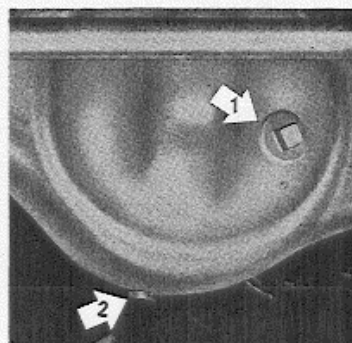

Fig. 5. Rear axle (ENV), early production.
The oil should be changed after every 20,000 km (12,000 miles). It is recommended that the oil is changed immediately after the car has been driven and while the oil is still warm. Drainage is carried out by removing the plug (2, Fig. 5) and also removing the filler plug (1). If there is no drain plug fitted on the rear axle, the oil must be sucked out or the cover must be removed to allow the oil to run out. Great cleanliness must be observed to prevent dirt from getting into the final drive. Check that the cover gasket is in good condition, otherwise replace it.